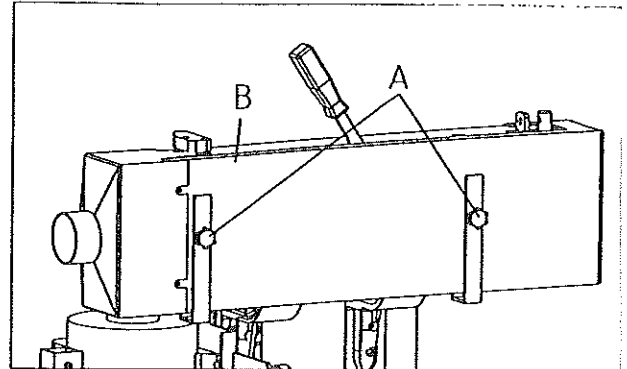

Fig.6
2. Remove two lock knobs (A. Fig. 6) and the belt Cover (B. Fig. 6).